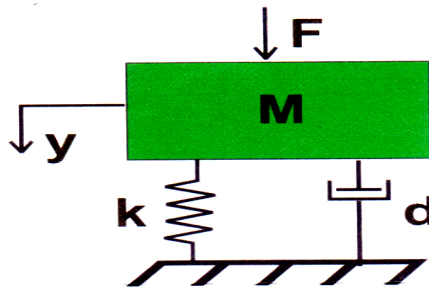

Figure 2
- Q7) a)** For the system in Figure 2, assume $M = \text{mass} = 1 \text{ kg}$, $k = \text{stiffness} = 2 \text{ N/m}$ and $d = \text{damping} = 0.5 \text{ Ns/m}$. Also, $F = \text{force input in N}$ and $y = \text{displacement output in m}$. **[10]**